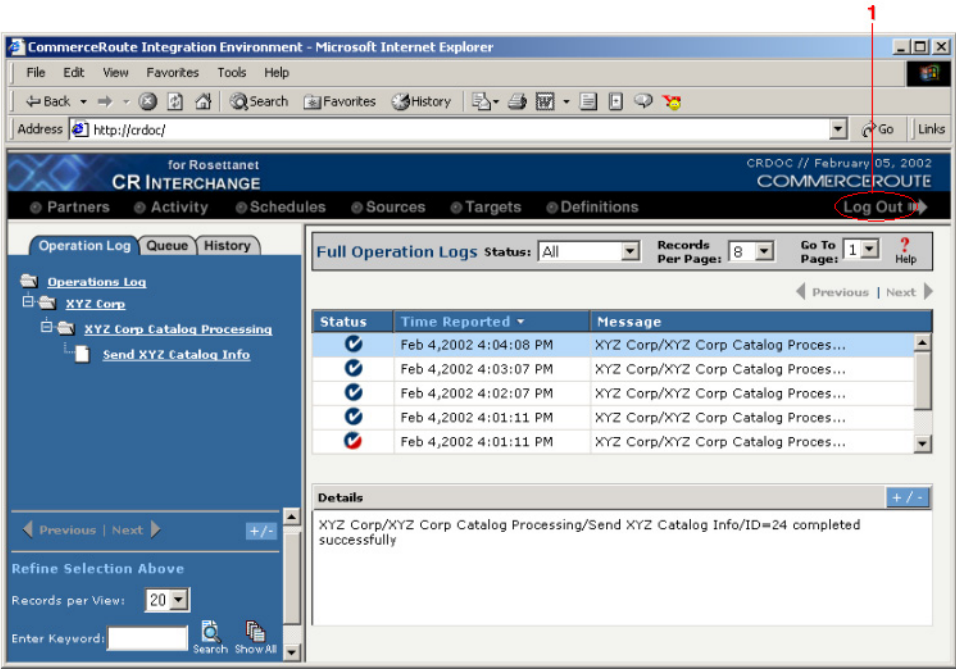

Figure 3-22. Make sure to log out from the Tutorial when you have finished.
- Click the **Log Out** button at the top-right of the screen to log yourself out from the Tutorial (see Figure 3-22 below).